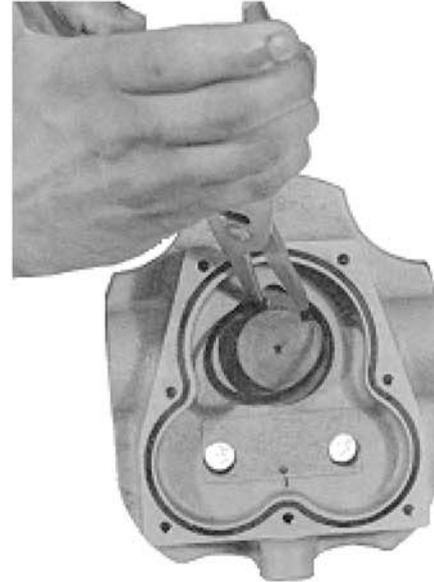

FIGURE 10
12.) Remove the snap ring which retains the shaft and thrust bearing. (Fig. 10)